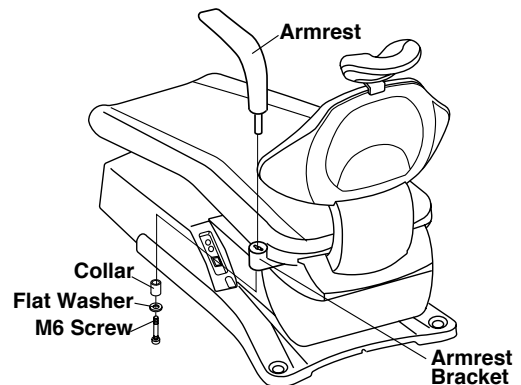

Fig.6-21 Fixing Armrest
F. Fix the armrest to the armrest bracket with M6 screw, flat washer and collar. (Fig.6-21)